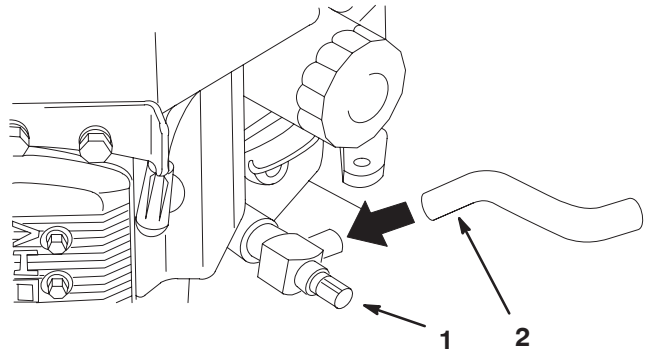

Figure 34
5. Slide the drain hose over the oil drain valve (Fig. 34).
7. Rotate oil drain valve to allow oil to drain (Fig. 34).
9. Remove the drain hose (Fig. 34).